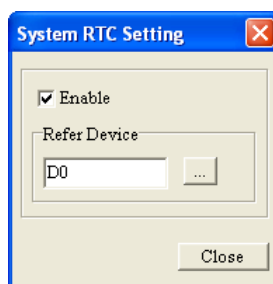

Figure 5-22 System RTC Setting window
**System RTC Setting** is used to write the time, the week, and the date in a TP series text panel to a related device. After users click **System RTC Setting** on the **Global Setting** menu, the **System RTC Setting** window will appear, as shown in Figure 5-22. After the users click **...** in the **Refer Device** section, the **Refer Device** window will be opened. Please refer to section 4.1.1 for more information.